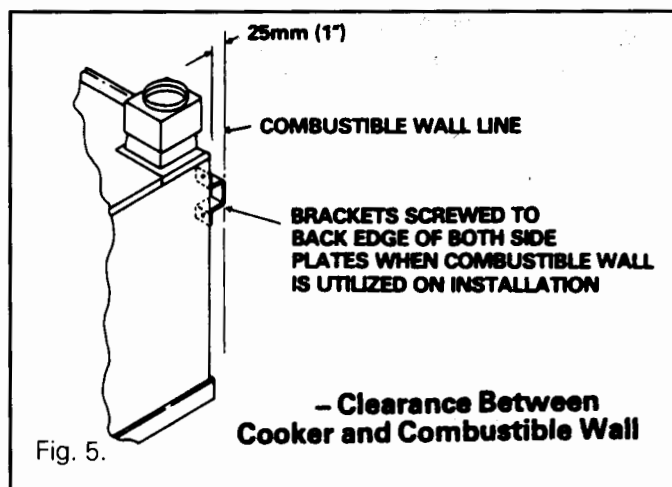

Fig. 5.
2. Appliance Rear Distance Bracket (For use when appliance is Bracket installed 25mm (1in) away from a rear wall of combustible material). See Fig. 5.
NOTE: IF THE REAR WALL IS OF COMBUSTIBLE MATERIAL, THERE MUST BE AN AIR GAP OF 25mm (1in) BETWEEN THE WALL AND REAR OF APPLIANCE. FIT REAR DISTANCE BRACKET AS SHOWN IN FIG. 5.